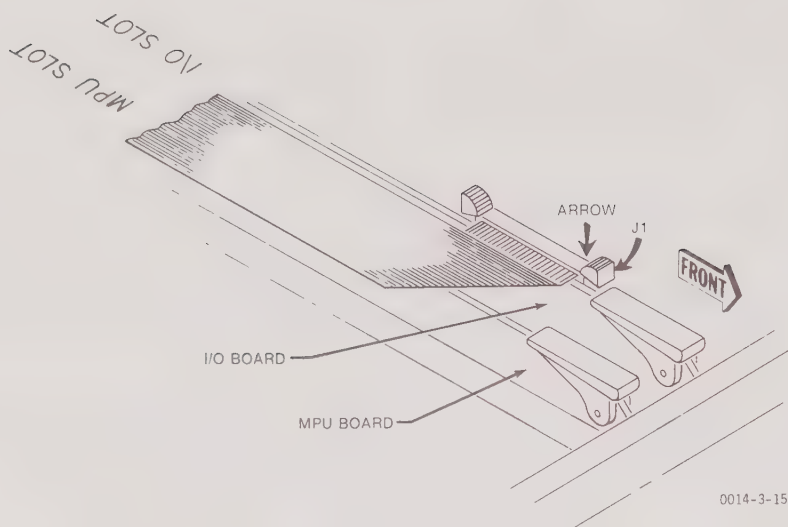

Figure 7-6. Disk Drive Ribbon Cable Connection to I/O Board
3. Referring to Figure 7-6, connect the single ribbon connector to the I/O board connector J1 nearest the front of the unit. The embossed arrow on the connector must be oriented toward the front of the machine.